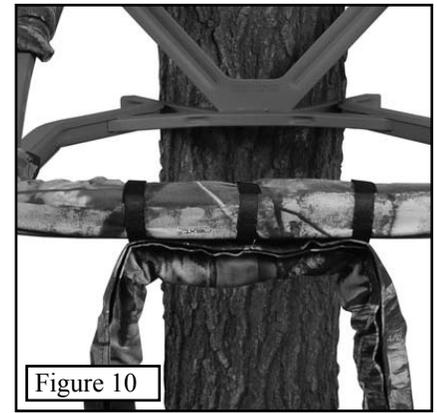

Figure 10
Step 3. Loop this Velcro® loop strap over the stand frame in the middle of the front pad as shown in **Figure 10**.